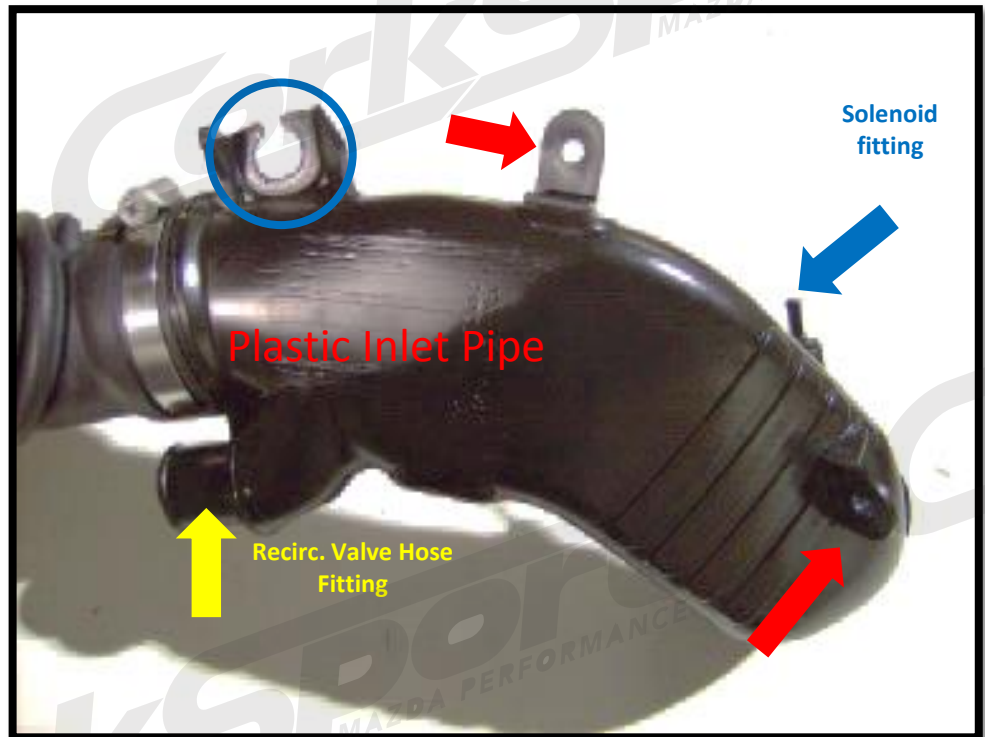
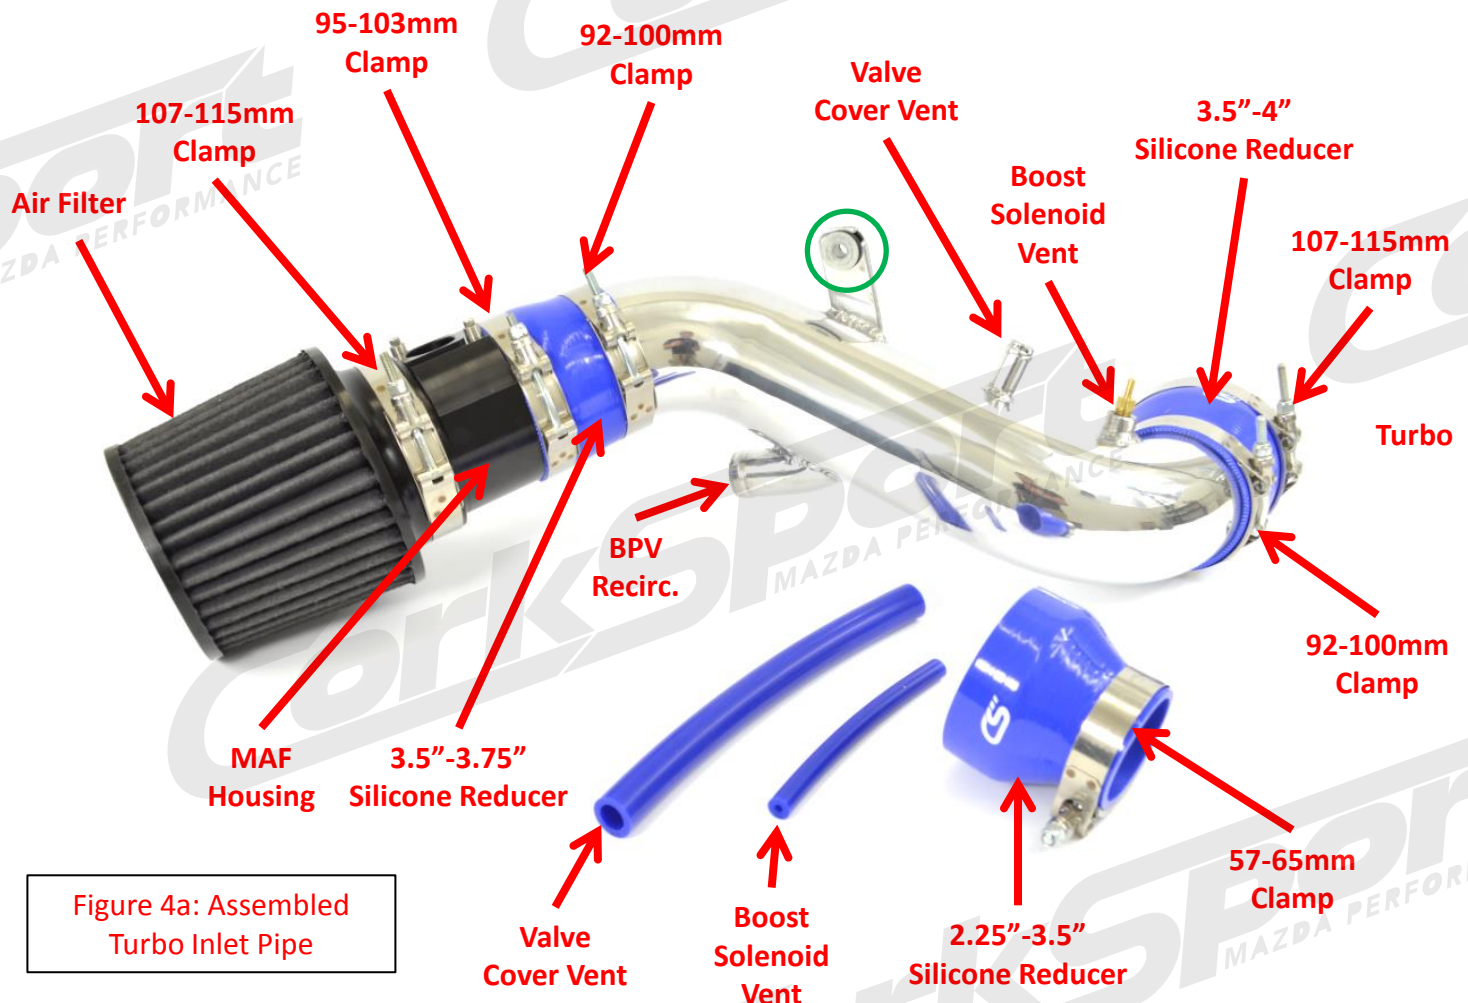
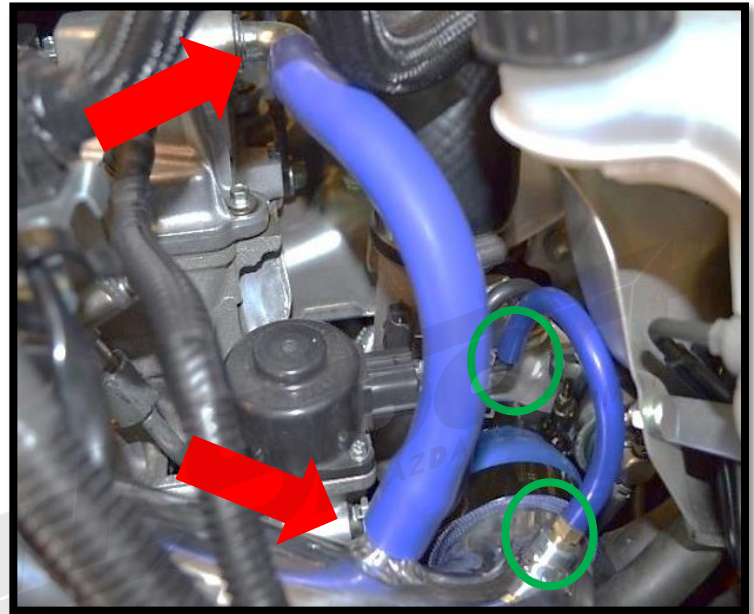

Figure 3b
Figure 4a: Assembled Turbo Inlet Pipe
Figure 5d
- b) Remove the 10mm nut that holds the stock turbo inlet pipe in place (blue circle in Figure 3b).
- c) Remove the two wiring harness clips (red arrows in Figure 3b) located on the stock turbo inlet pipe.
- d) Using needle nose pliers, remove the hose from solenoid fitting on the stock turbo inlet pipe and the boost control solenoid (see Figure 5d on next page and identified in Figure 3b by blue arrow).
- OEM K04 Turbo: Assemble the turbo inlet pipe** (shown w/the MAF housing and filter attached in Figure 4a, you will attach the MAF housing and filter later. Attach the 2.25" to 3.5" silicone reducer onto the turbo side of the inlet pipe. Place the two clamps (92-100 and 57-65) onto the reducer and lightly tighten the 92-100 clamp (shown in Figure 4a). Leave the 57-65 clamp loose (Do not attach the MAF housing and air filter at this time).
- Aftermarket 4" Inlet Turbo: Assemble the turbo inlet pipe** (shown w/the MAF housing and filter attached in Figure 4a, you will attach the MAF housing and filter later. Attach the 3.5" to 4" silicone reducer onto the turbo side of the inlet pipe. Place the two clamps (92-100 and 107-115) onto the reducer and lightly tighten the 92-100 clamp (shown in Figure 4a). Leave the 107-115 clamp loose (Do not attach the MAF housing and air filter at this time).
- Remove the rubber mounting grommet and washer from the factory turbo inlet pipe and install it on the CorkSport TIP** (circled in blue in Figure 3b and green on CorkSport TIP in Figure 4a).
- e) Connect the supplied small ID silicone hose from the brass nipple to the boost control solenoid (green circles in Figure 5d).
- f) Connect the supplied large ID silicone hose to the valve cover and the large port on the TIP (red arrows in Figure 5d).